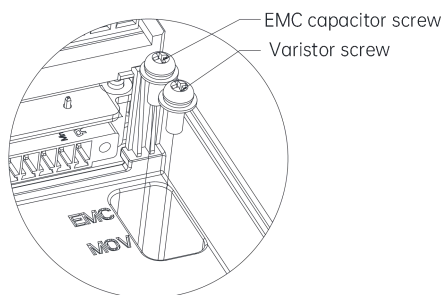

Fig. 4-35 Connection screws for EMC capacitor and varistor
- Try to disconnect the EMC capacitor connection screw to avoid leakage protection, as shown in Fig. 4-35.